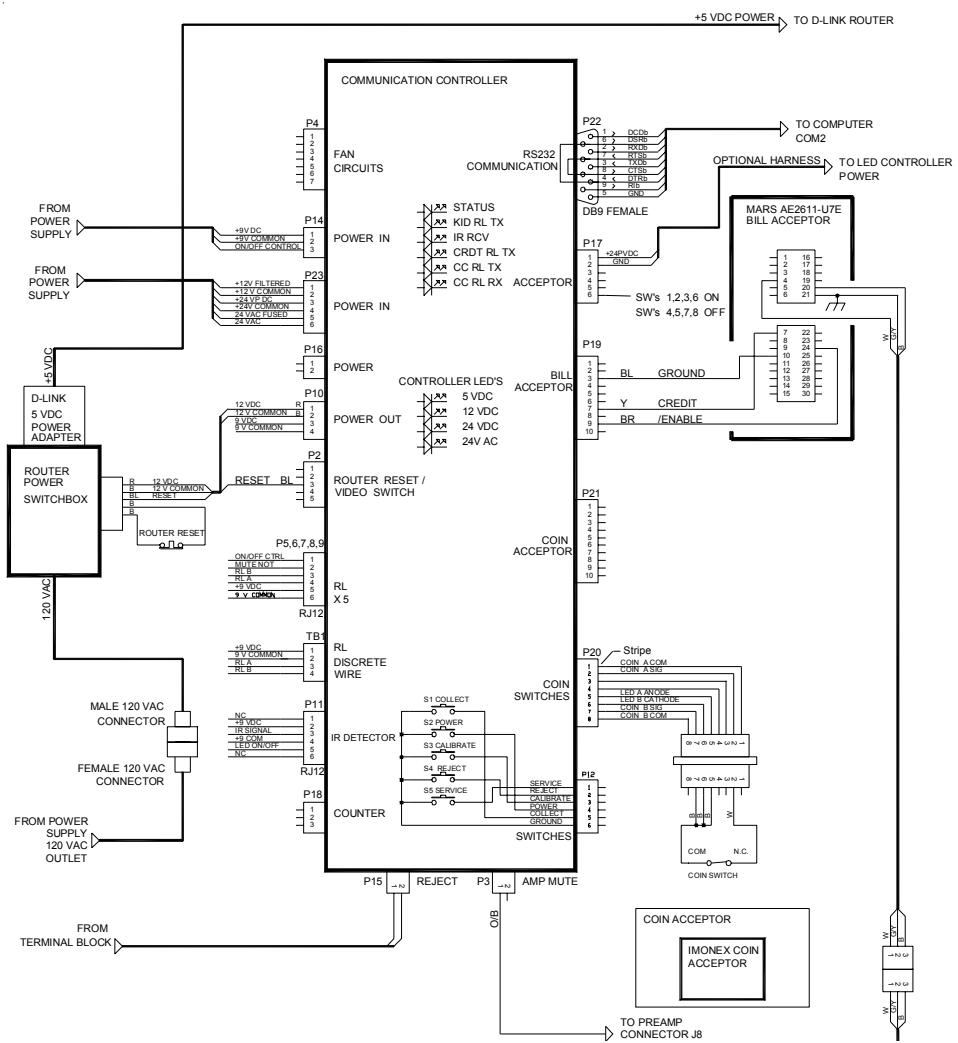

FIGURE 7-2-COMMUNICATION CONTROLLER WIRING DIAGRAM
- Wiring diagrams (see Figures 7-2 through 7-5) to help you isolate the problem to a harness or a module.